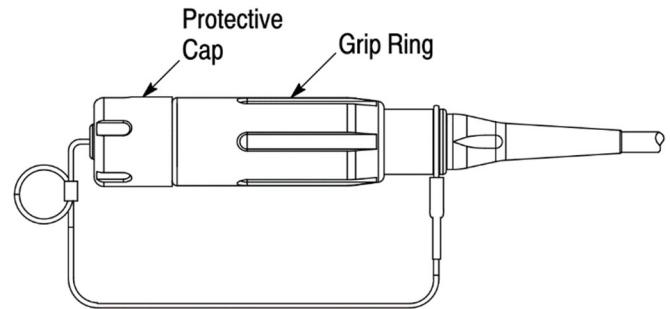

Figure 16
4. Using the heat gun, apply heat to the shrink tube until it has shrunk and is secure. See Figure 16, Detail A.
5. Thread the protective cap onto the connector housing, and the grip ring onto the protective cap. Finger-tighten the protective cap and the grip ring to each other. See Figure 16.